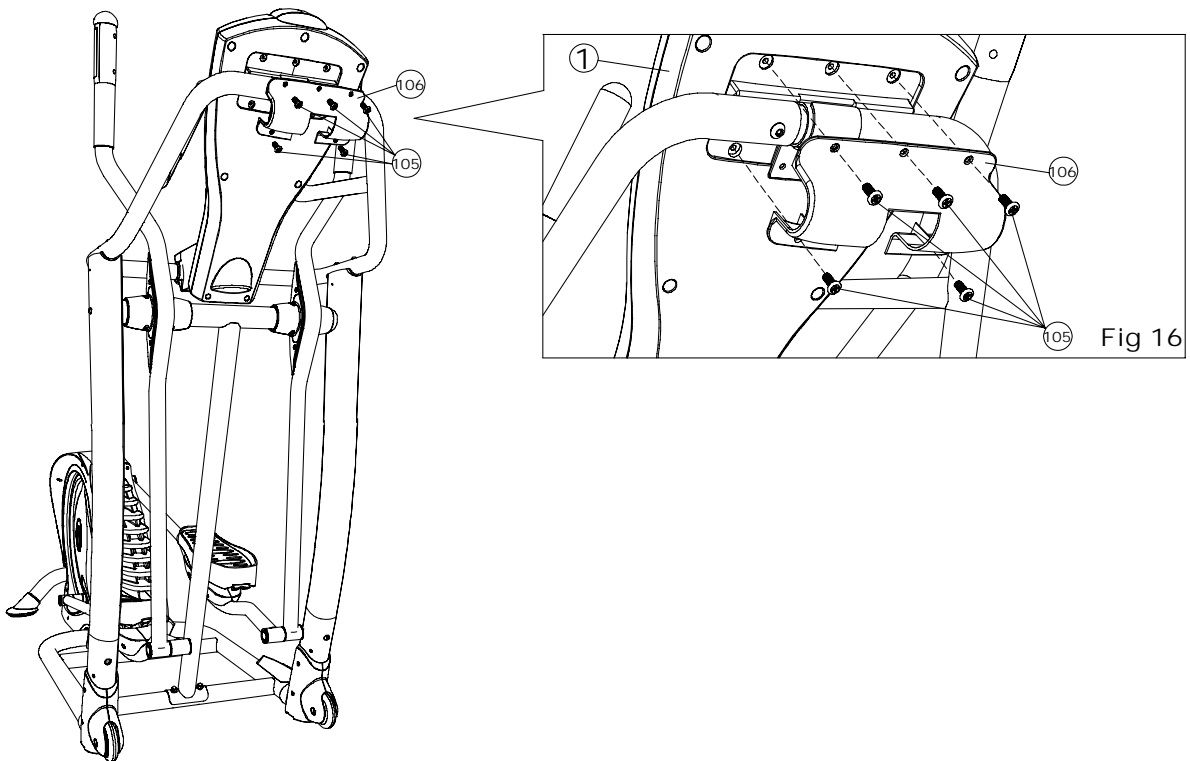

Fig 16
Attach the Console Back Cover (106) to the Console Housing – Bottom (3) with five M6 x 12mm Screws (105) as shown in FIG16.